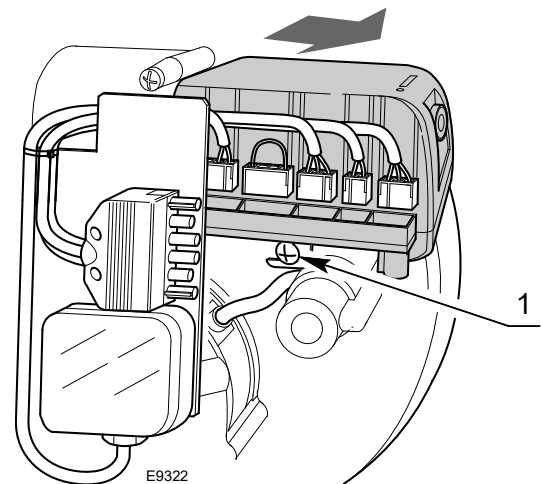

Fig. 14
- disconnect all the connectors connected to it, the 6-pin plug, the high voltage cables, and the earth wire (TB);
- loosen the screw 1)(Fig. 14) and pull the flame control in the direction of the arrow.
- tighten screw 1)(Fig. 14) with a tightening torque of $1 \div 1.2$ Nm;